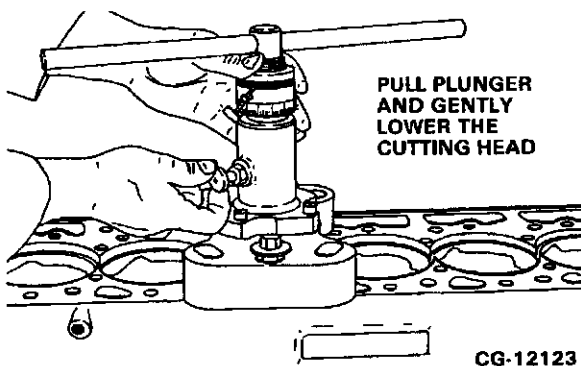

Figure 6.43. Lower Cutting Head into Counterbore
- d. LOWER THE CUTTING HEAD by pulling the plunger and **SLOWLY** lower the drive unit handle until the cutter head contacts the counterbore ledge. (Refer to **Figure 6.43**.)